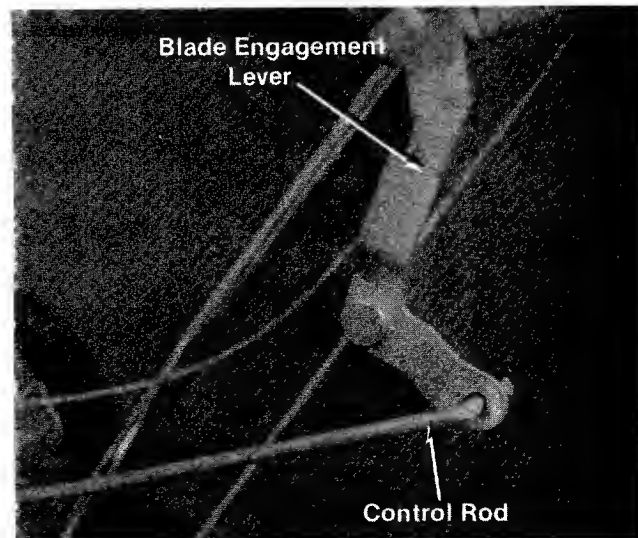

FIGURE 4
5. Attach the Blade Engagement Lever to the Control Rod as it is shown in figure 4.
6. Assemble the control lever to the handle panel with the flat washer and locknut. (See figure 4.)